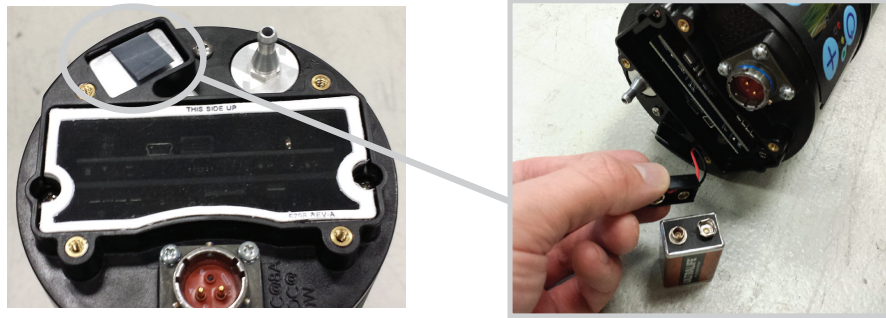

Figure 6-5. Replacing 9V battery
- 6.7.4 Remove 9V battery from where shown in figure 6-5.
- 6.7.5 Disconnect and replace battery as shown in figure 6-5.